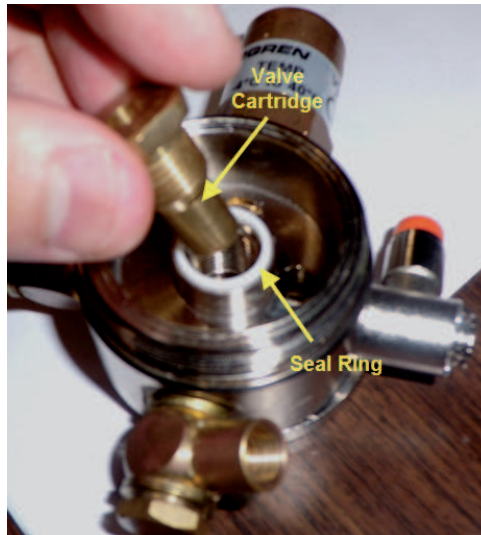

Figure 76 - Valve cartridge and Seal Ring
7. Install the valve cartridge and seal ring (Figure 76).